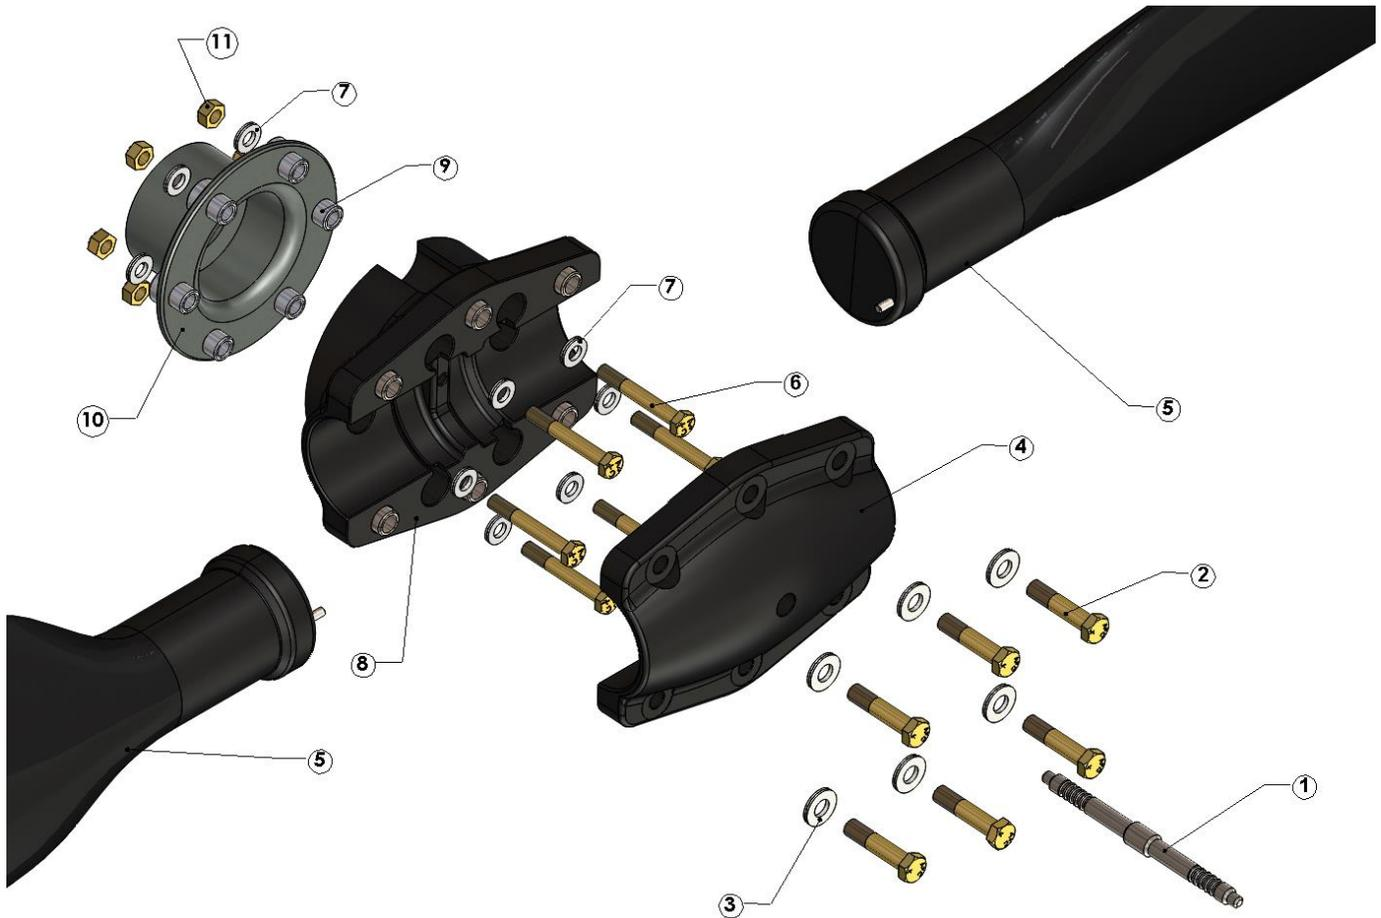
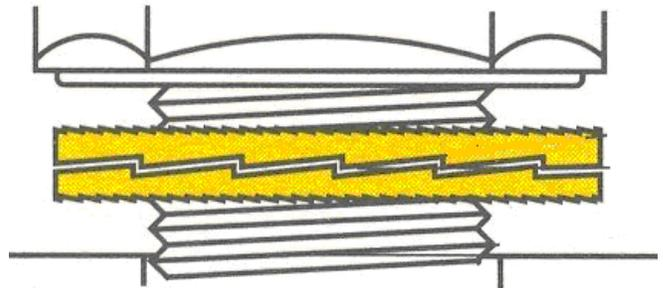

FIGURE 1. PROPELLER ASSEMBLY
FIGURE 2. NORD-LOCK LOCK WASHER
Figure 1 for a view of the two piece hub, blade, and pitch setting gage.
2. Place spacer and spacer bushings (if required), rear spinner bulkhead (if used) and the hub mount, as shown in **Figure 1** on the propeller mounting flange. The hub must sit flush on the mounting flange.
3. Refer to **Figure 1** for a view of the two piece hub, blade, and pitch setting gage. Using the Nord-Lock washers, mount bolts, and lock nuts, secure the hub mount, rear spinner bulkhead (if used), and the spacer (if required) to the engine flange. See **Figure 2** for proper Nord-lock washer assembly. Using a calibrated torque wrench, torque the 6 mounting bolts evenly using an alternating pattern. Tighten the bolts in several passes up to full torque, such as 100, 200, and 240 in-lbs torque. See **Table 1** or hub decal for other units of bolt torque.
Each Nord-lock washer works in pairs with the "ramped" sides facing each other. See Figure 2.
Check bolt torque at least once a year or if vibration occurs. Hubs use bolts with Nord-Lock washers. No other washers may be used in combination with Nord-lock washers. Each lock washer works in pairs with the "ramped" sides facing each other. See Figure 2.